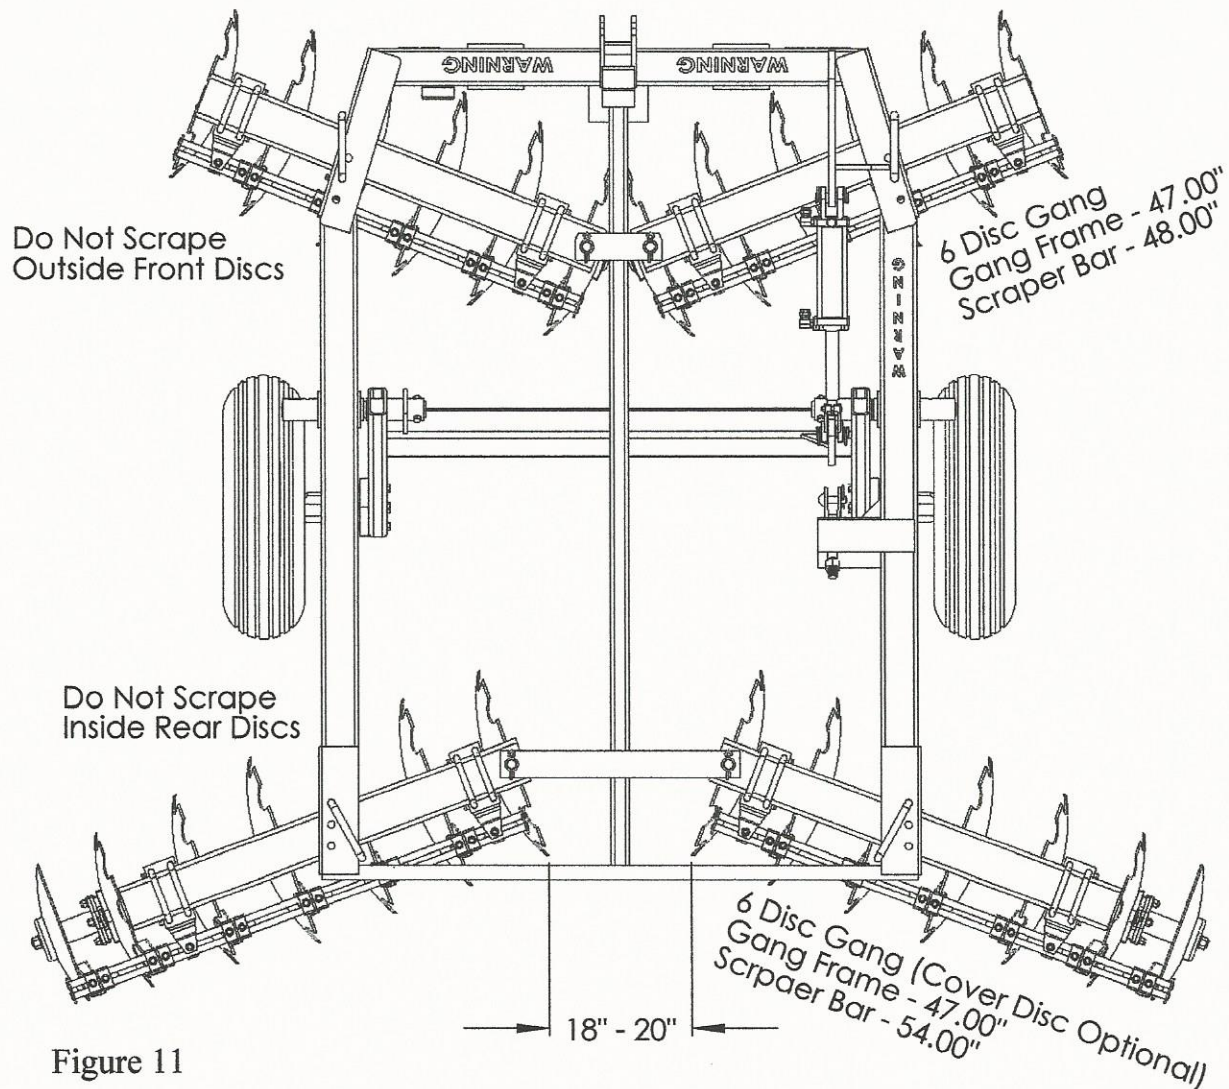

Figure 11
M) Disc Gang Layout (Refer to Figure 11)
- 1) The *Model 62* is configured in seven (7) different widths of cut with 7 ½" Disc Spacing, 9" Spacing, or a combination of 9" Spacing on the front disc gangs and 7 ½" Spacing on the rear. **Refer to Table 1 for Disc Gang information.** After attaching the Right Front and Left Front Disc Gangs slide the inside two (2) Blades close to but not touching one another as shown in Figure 11 above. Next, attach the Right Rear and Left Rear Disc Gangs and slide the inside two (2) Blades approximately **18 to 20 inches** apart as shown in Figure 11. For further information on the positioning of the Disc Gangs refer to the Operation Section of this Manual (Section 3).